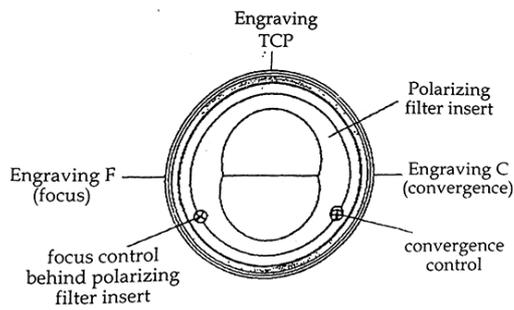
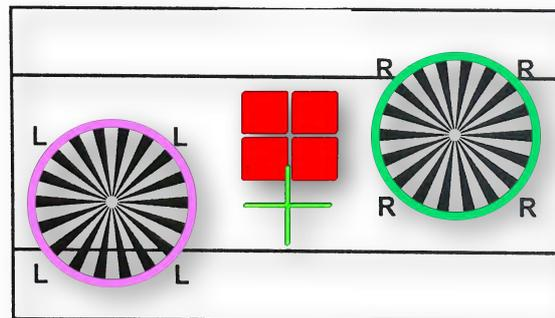

Fig. 1 : CINELUX 3D Front View
Fig. 6 : Superimpose horizontal lines of centre crosses by adjusting the convergence control. (See fig. 7)
- The horizontal superimposition (fig. 6) is achieved by adjustment of the axial distance (convergence control) of both lens halves. This is done by means of the Phillips screw (fig. 1& 2), which is situated at the left side of the lens - when viewed in the direction of projection, and which can be reached from the front of the lens as well as from the back.